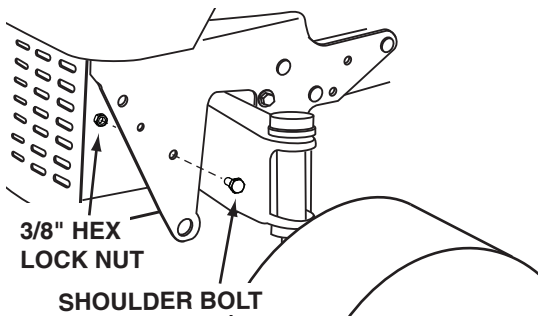

Figure 6
13. To install the shoulder bolts, choose figure 6, 7 or 8, depending on the type of tractor.
- a. Install a shoulder bolt and a 3/8" hex lock nut in the front bracket on each side of the tractor, unless a shoulder bolt is already present. See figure 6.